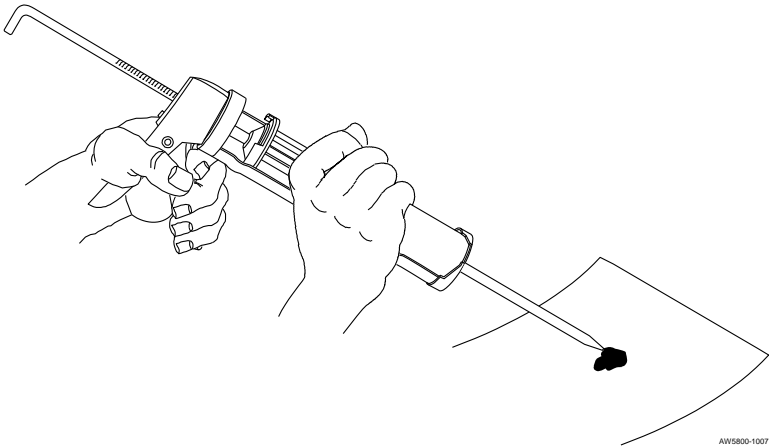

Figure 7. Clearing Duo-pak Adhesive
5. Press trigger and dispense and discard a small amount of adhesive ensuring both sides of the duo-pak glue cartridge are flowing freely. See Figure 7. Trim end of nozzle to allow better flow, if necessary.
- B. Remove the cap from the cartridge. Press trigger and dispense and discard a small amount of adhesive to ensure both sides of the duo-pak glue cartridge are flowing freely and evenly. See Figure 7. Trim end of nozzle to allow better flow, if necessary.